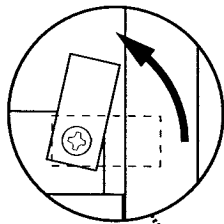

Fig. 14
2. Swivel the two retaining plates through 90°. Lift the control box slightly and allow it to hinge forwards (Figs. 14 & 15). Undo the two retaining screws and remove the cover panel.